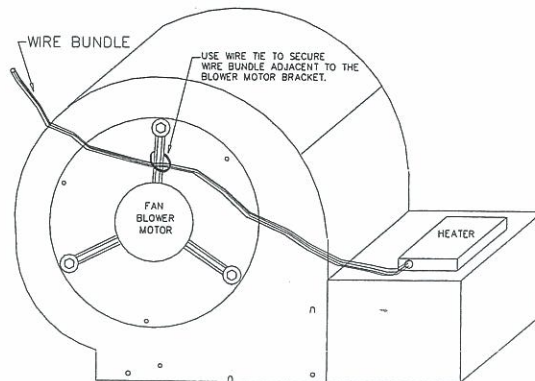

FIG. 1
3. Remove the blower top plate - remove and discard the cover plate attached to the blower top plate (save the (4) removed screws for mounting the heater).
8. Route the heater element section wiring by the blower and up to the control panel entry hole and secure it with wire ties to keep it clear of the fan blades (secure wire bundle adjacent to the blower motor bracket next to the brown fan motor wire, see Fig. 1 - Do not mount wire bundle on top of blower motor bracket).